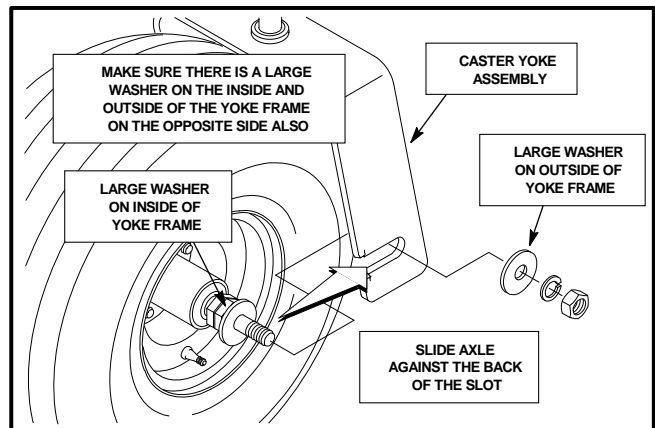

Figure 21
4. Install the wheel and axle onto the caster yoke assembly sliding the axle against the rear side of the slot. Make sure the hardware on the axle is loose enough to allow the yoke frame to be mounted **between** the two large washers on each side of the yoke (See Fig. 21) **or** remove the nut, lockwasher and one large washer from each end of the axle, slide the wheel on making sure to keep one (1) large washer on the inside of the yoke frame, and one large washer on the outside of the yoke frame. Replace the hardware.